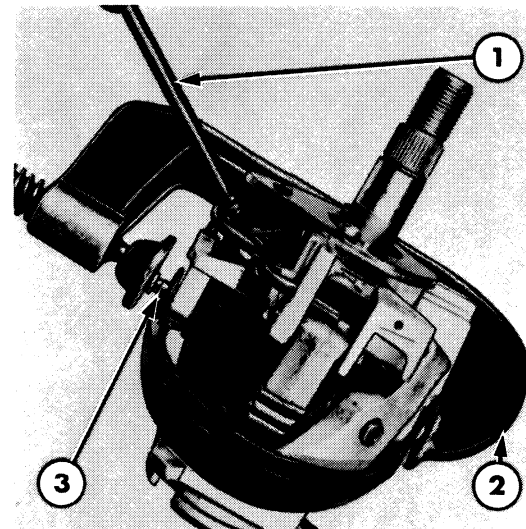

Figure 11
2. Replace the two threaded pins using a suitable press or clamp, Figure 11.